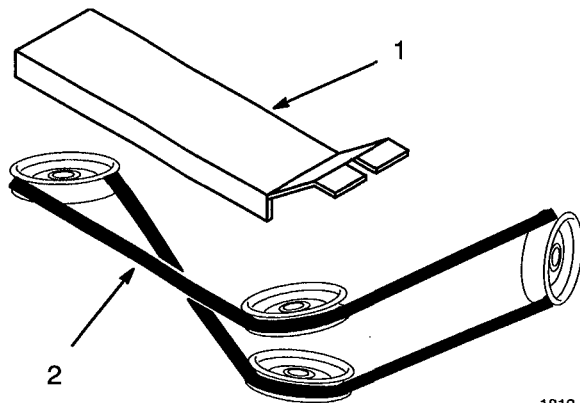

Figure 18
1. Remove belt covers and note routing of belt (Fig. 18). Remove belt. This belt is designed specifically for this application. Install belt and belt covers as outlined under Install Vacuum .